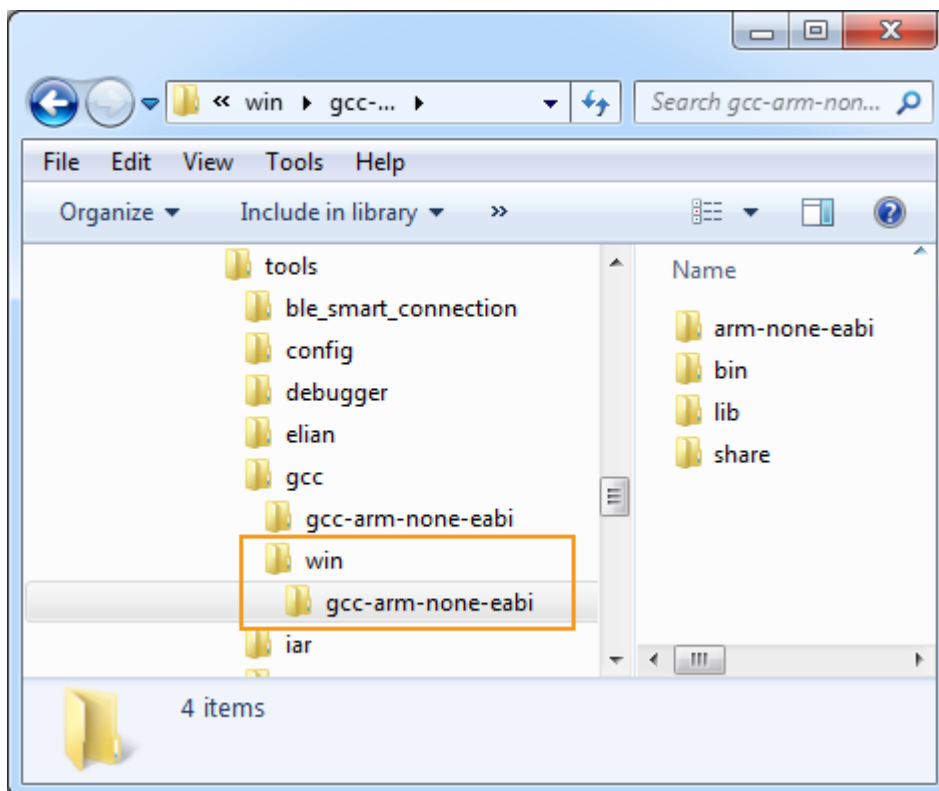

Figure 9. tools/gcc folder structure
| Figure 9. tools/gcc folder structure..... | 8 |
- c) Rename the unzipped `gcc-arm-none-eabi-4_8-2014q3-20140805-win32` folder to `gcc-arm-none-eabi`, as shown in Figure 9.